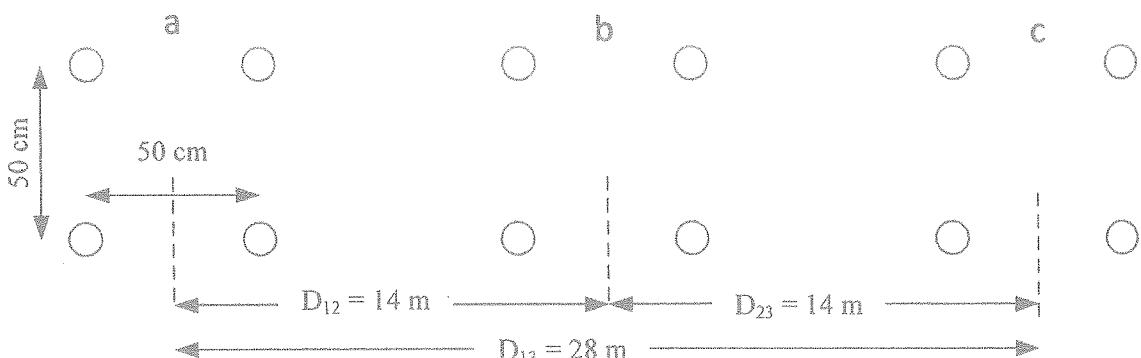

Figure Q5
- Q5 a) A transposed three-phase line consisting of four-conductor bundles is shown in Figure Q5. The conductors have a diameter of 3.45 cm and placed at the corner of a square with 50 cm on one side. The line has a flat horizontal configuration with a spacing of 14 m as measured from the center of the bundle as shown in Figure Q5.